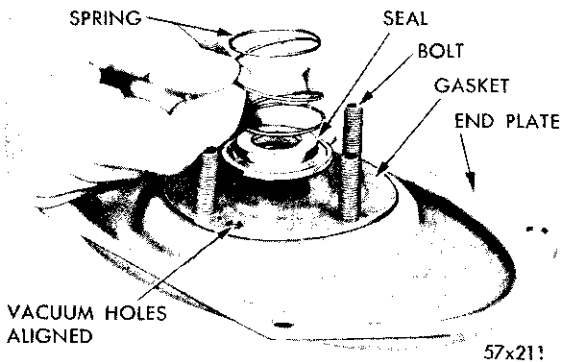

Fig. 64—Installing the Gasket, Seal and Spring
(6) Insert the vacuum inspection port screw and gasket into the mounting ring. Insert the ring retaining bolts through the holes in the end plate. Apply silicone grease to the outer face of the gasket around the center hole. Slide gasket down over bolts. (Be sure the vacuum port opening in the gasket is aligned with opening in the end plate.) (See Fig. 64.)
(7) Place a new piston rod leather seal on the gasket, with the raised shoulder up. Slide spring over shoulder and seat against seal, as shown in Figure 64. Center the seal and spring.